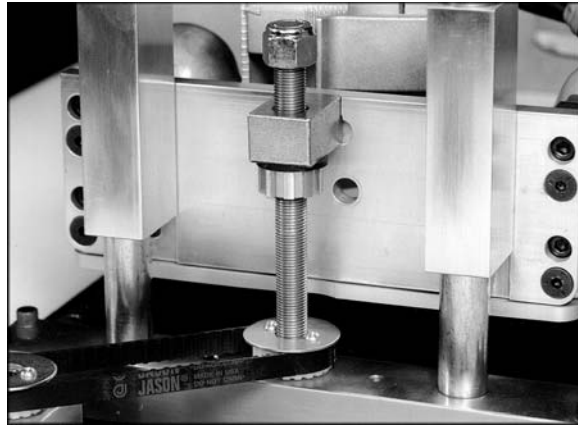

Figure 19
1. Turn your Rout-R-Lift upside down on a table (Fig. 19).